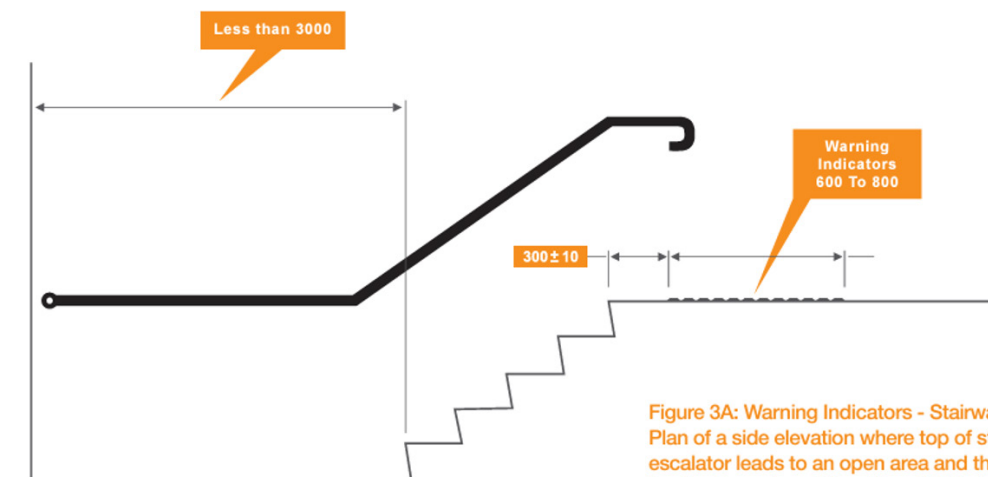

Figure 3A: Warning Indicators - Stairways
- o Warning indicators must be set back from the top of stairs, escalators, ramps, and moving walks by 300 ± 10 mm, and form a 600 to 800mm 'pad' (see Figure 3A and 4A).